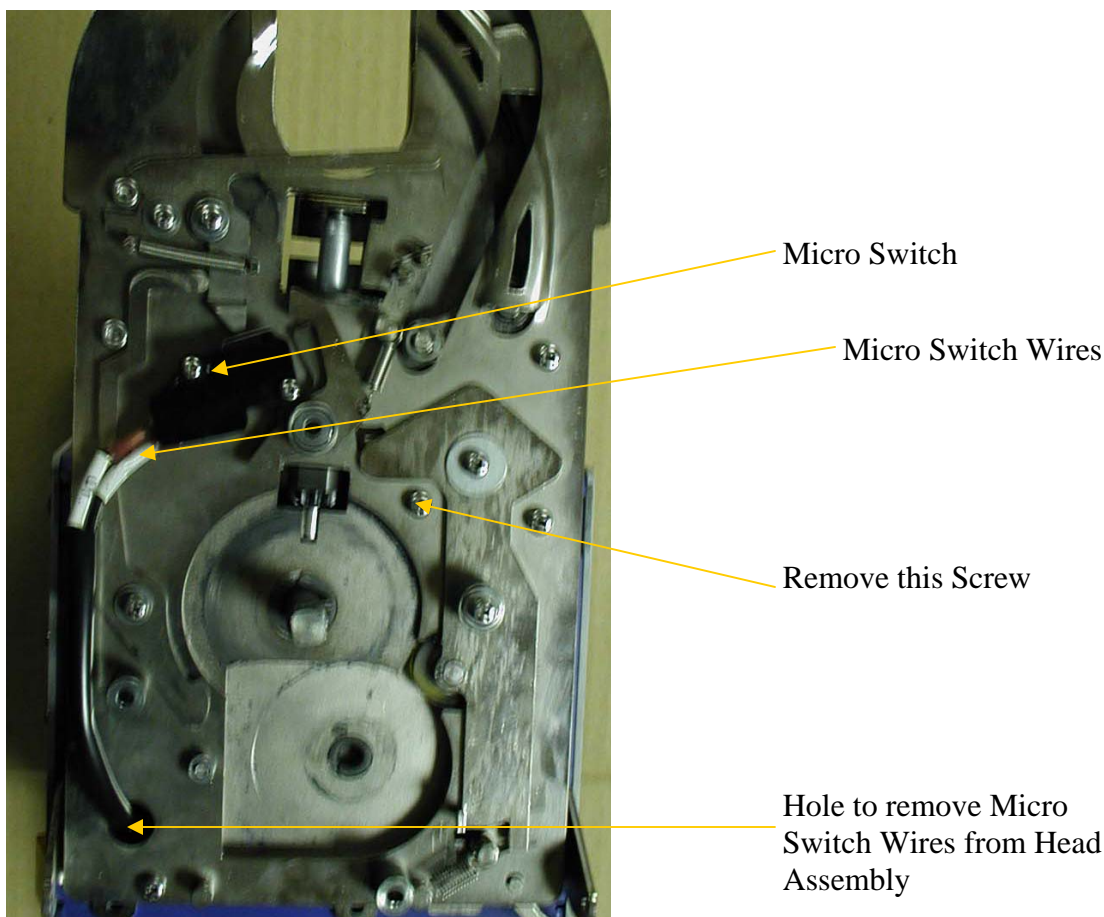

Figure 11
- 3) Remove the wires from the Micro Switch. See Figure 11.
- 4) Remove the screw marked in Figure 11 below and while feeding the wires through the hole in the back of the assembly, lift and remove the Head Assembly from the Base of the Machine.